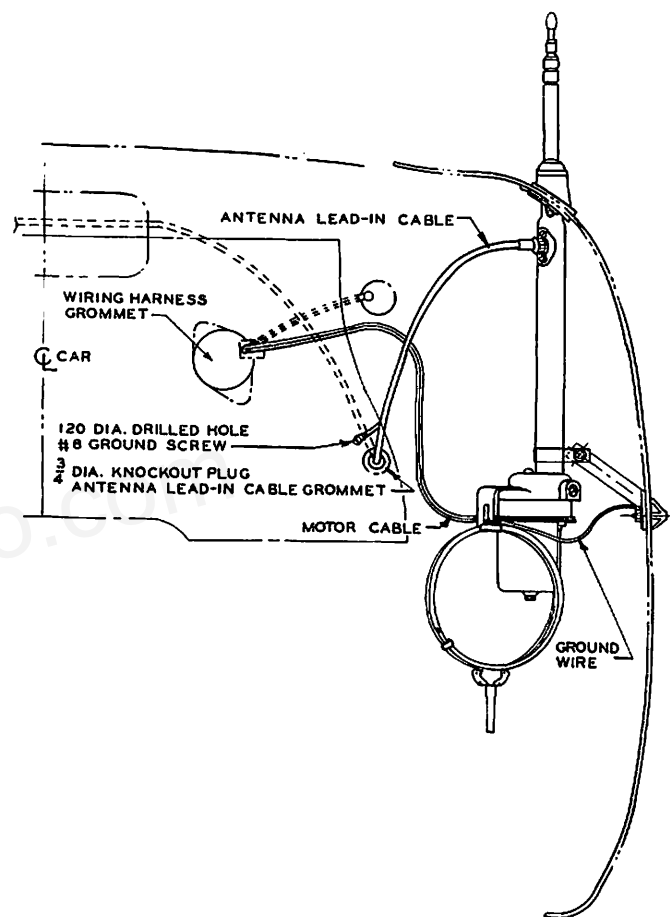

Figure 2
2. Remove  $\frac{3}{4}$ " diameter knockout plug in dash panel. Install antenna lead-in cable grommet. See figure 2.
venient location near grommet and ground lead-in cable with No. 8 self-tapping ground screw. See figure 2.
5. Push motor cable through hole located in main wiring harness grommet. See figure 2.